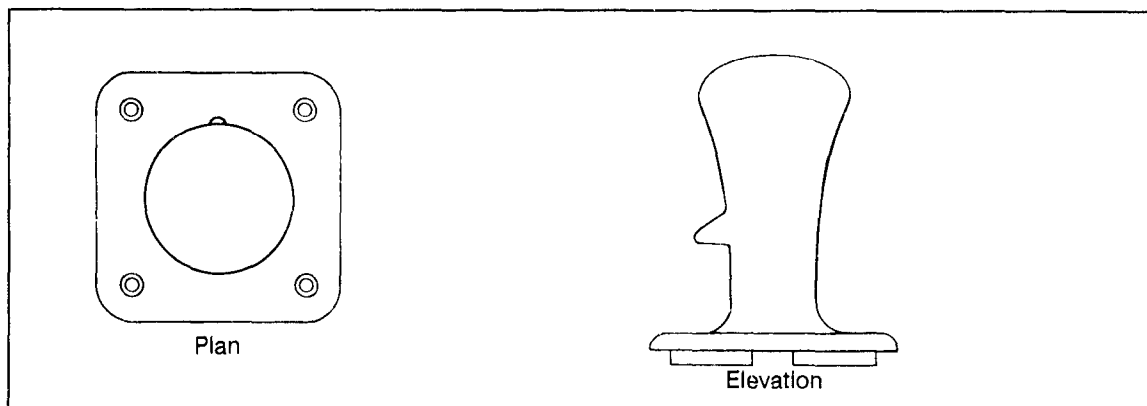

Figure 9-2. Plan and Elevation Views of a Corner Mooring Post
b. Corner mooring posts (Figure 9-2). Corner mooring posts are larger than bollards. They are fastened at the outshore corners of a pier, wharf, or quay. These posts are used to bring the ship into the pier or around a turning dolphin, as well as to secure lines. Once designed to take line pull loads of 50 tons, they are now designed for loads of up to 100 tons.